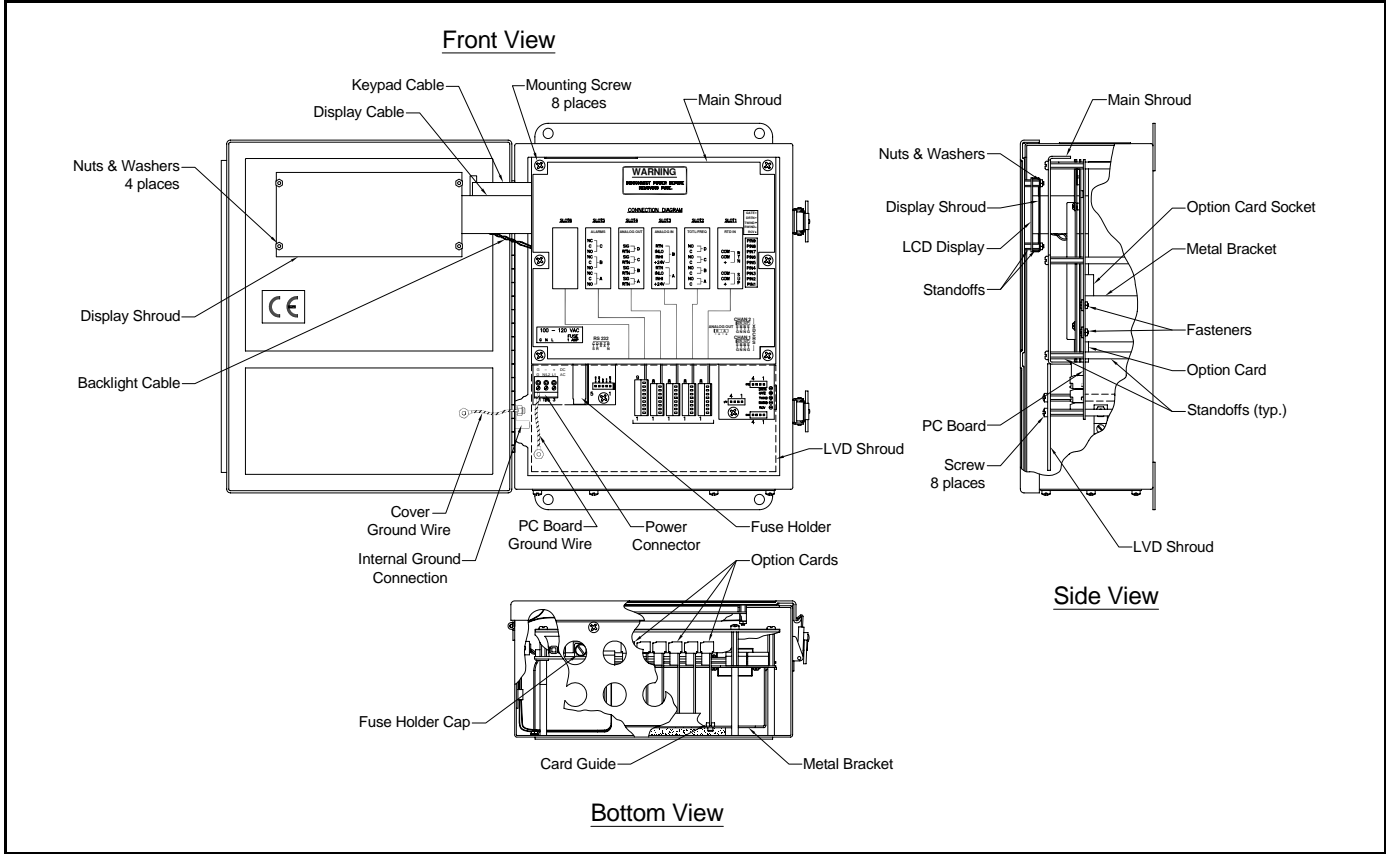
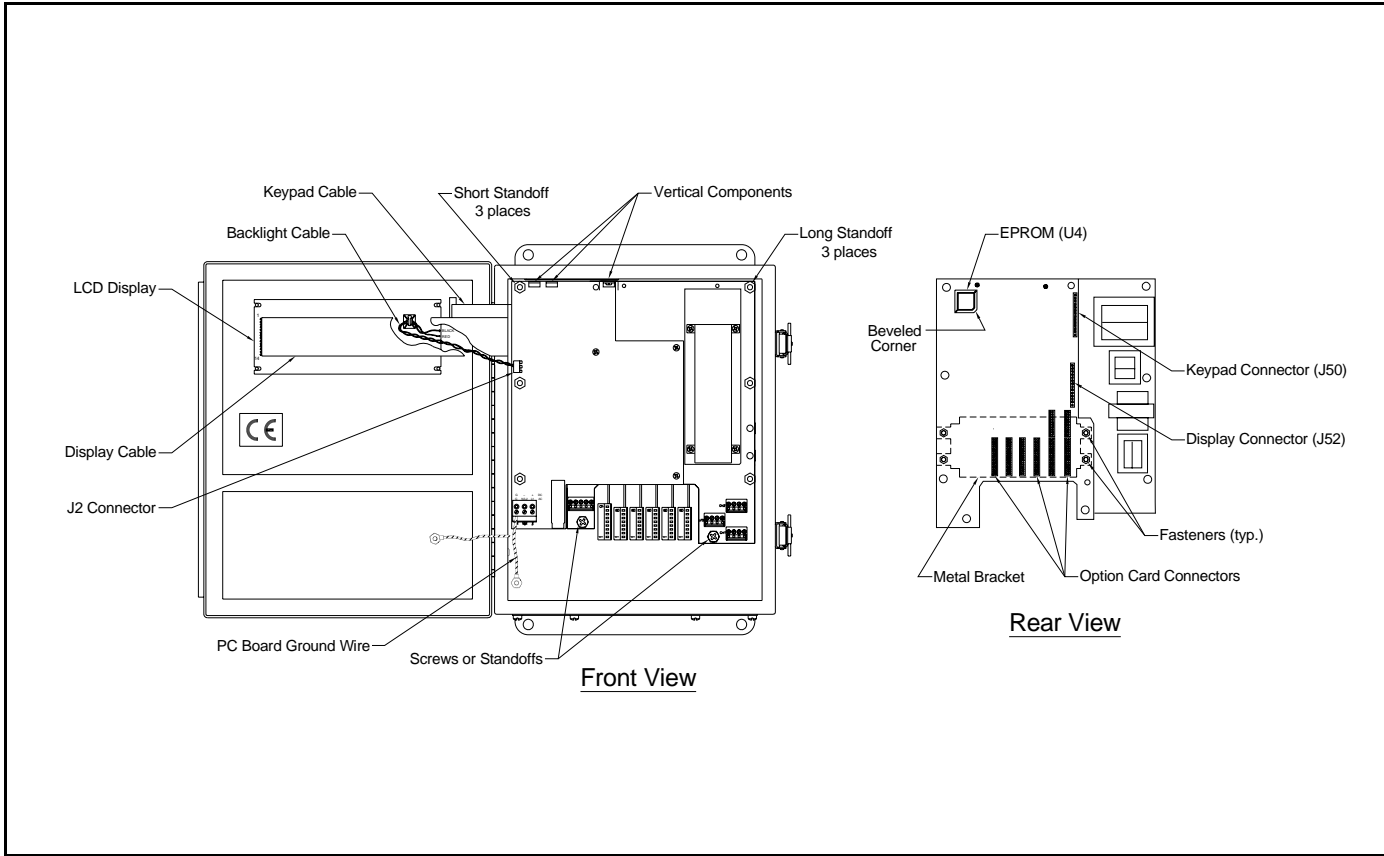

Figure 4-1: Standard Model GM868 - Electronics Console Assembly
Figure 4-2: Standard Model GM868 - Printed Circuit Board Assembly
All of the remaining maintenance procedures discussed in this chapter require removing the printed circuit board. To accomplish this task, refer to Figure 4-1 on page 4-10 and Figure 4-2 on page 4-11 while completing the following tasks:
During this procedure, be very careful not to damage the upright components along the top edge of the printed circuit board (see Figure 4-2 on page 4-11). Severe or repeated bending of these components will break their leads.
The Model GM868's *User Program* is stored on an erasable programmable read only memory (EPROM) chip. The EPROM, which is designated as component U4, is located in the top left corner of the rear of the printed circuit board (see Figure 4-2 on page 4-11). EPROM replacement may be required to replace a defective chip or to upgrade to a newer software version. To replace the EPROM, complete the following steps:
To install an option card, refer to Figure 4-2 on page 4-11 and complete the following steps:
5. Place the metal bracket over the option cards, making sure that all option cards are aligned with the plastic card guides in the bracket. Secure the metal bracket to the printed circuit board with the snap rivets provided. See the installed assembly in Figure 4-1 on page 4-10.
The Model GM868's measurements are displayed on a two-pane LCD graphic display panel. The LCD display normally provides years of dependable service, but it is easily field-replaceable when necessary. To replace the LCD display, see Figure 4-1 on page 4-10 for the component locations, and complete the following steps:
4. Place the new LCD display assembly over the mounting studs on the console cover and fasten it in place with the four standoffs. Make sure that the LCD display assembly is oriented as shown in Figure 4-2 on page 4-11.
Whether the printed circuit board was removed for replacement or for one of the other procedures discussed in this chapter, reinstallation of the printed circuit board is the final step in the process. Refer to Figure 4-1 on page 4-10 and complete the following steps:
During this procedure, be very careful not to damage the vertical components along the top edge of the printed circuit board (see Figure 4-2 on page 4-11). Severe or repeated bending of these components will break their leads.
1. Position the printed circuit board within the electronics console with the top edge tilted forward. Insert the display ribbon cable and keypad ribbon cable connectors into their sockets on the rear of the printed circuit board. See Figure 4-1 on page 4-10 and Figure 4-2 on page 4-11 to identify the cables and sockets. Note that the keypad cable connects to the upper socket and the display cable connects to the lower socket.